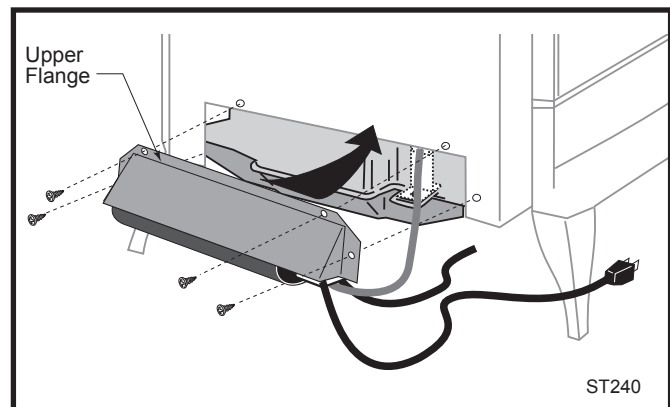

Fig. 14 The upper flange of the fan skirt should be located behind the lower edge of the shroud.
3. Attach the Fan to the firebox by engaging the upper flange of the fan skirt under the lower edge of the Shroud and secure the skirt with the four screws provided with the kit. (Fig. 14)